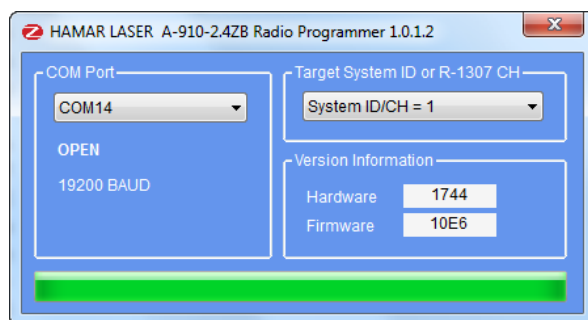

Figure 8 – A-910 Utility showing the COM Port, System ID and Channel settings
2. Start the A-910 Utility Software. The software should display the COM port assigned to the Zigbee Dongle (see Figure 8). If the utility does not automatically detect the COM port, it must be manually selected (see *Manually Selecting a COM Port* on Page 7).
6. Note the COM Port listed and select that COM Port in the A-910 Zigbee Utility software using the drop-down arrow (see Figure 8).